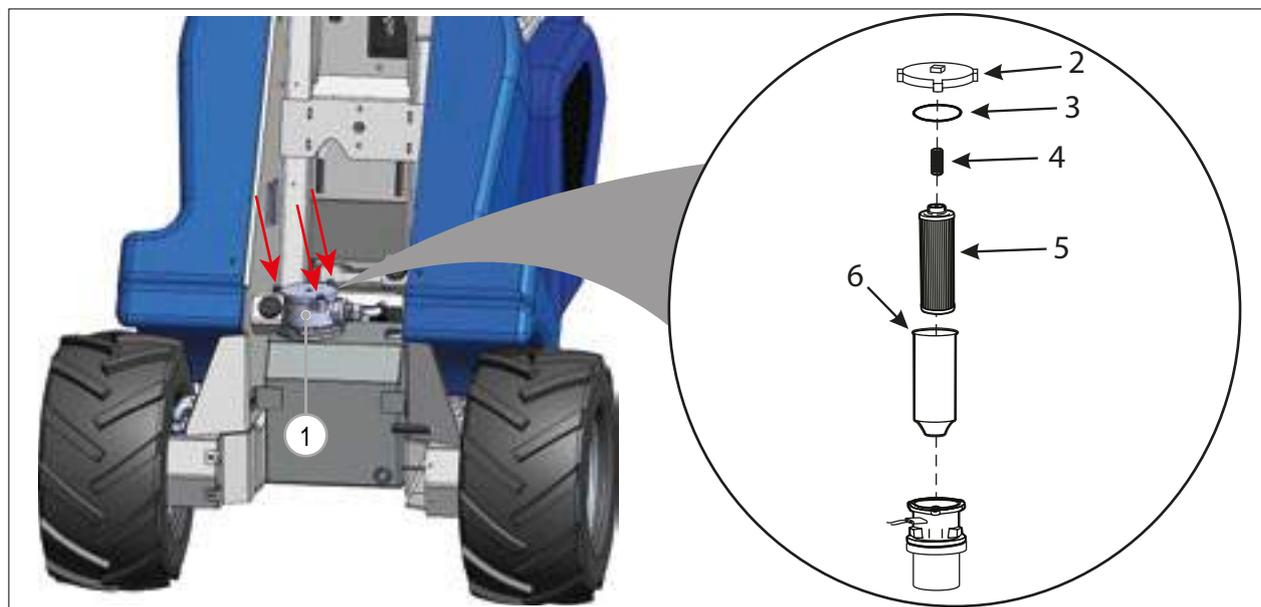

FIG. 22
- 3) Remove the oil filter cover (FIG. 22 - Ref. 2) by loosening the screws that secure it.
- 4) Remove the spring (FIG. 22 - Ref. 4), and the filter element (FIG. 22 - Ref. 5) from the plastic sleeve (FIG. 22 - Ref. 6).
- 6) Reinstall the spring and inspect the filter cover O-ring for any signs of wear or damage. This O-ring is located in a groove at the top of the filter body (FIG. 22 - Ref. 3). Replace the O-ring in case of wear or damage.
- 7) Reinstall the filter cover (FIG. 22 - Ref. 2) and secure it.